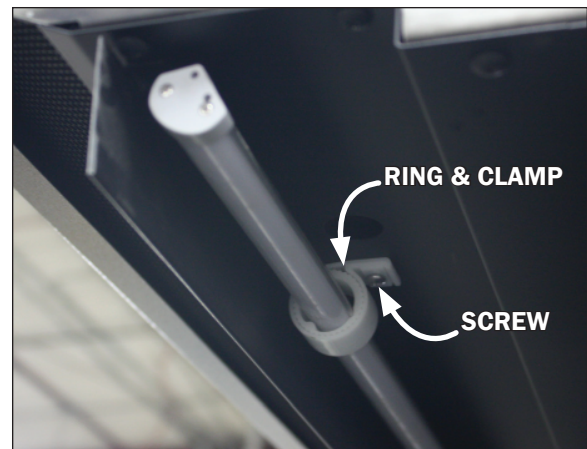

Fig. 5 LED light & ring/clamp
2. Remove the screws from the light clamps (Fig. 5) while keeping ahold of the light. Once the screws are removed the light rod will come away from the case with the clamps still holding to the light.